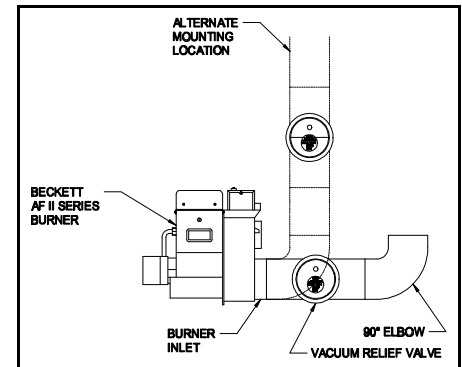

Figure 2
2. Mount VRV tee assembly or 90o elbow onto the burner inlet. Fasten using three (3) sheet metal screws on all joints. (See Figure 2)